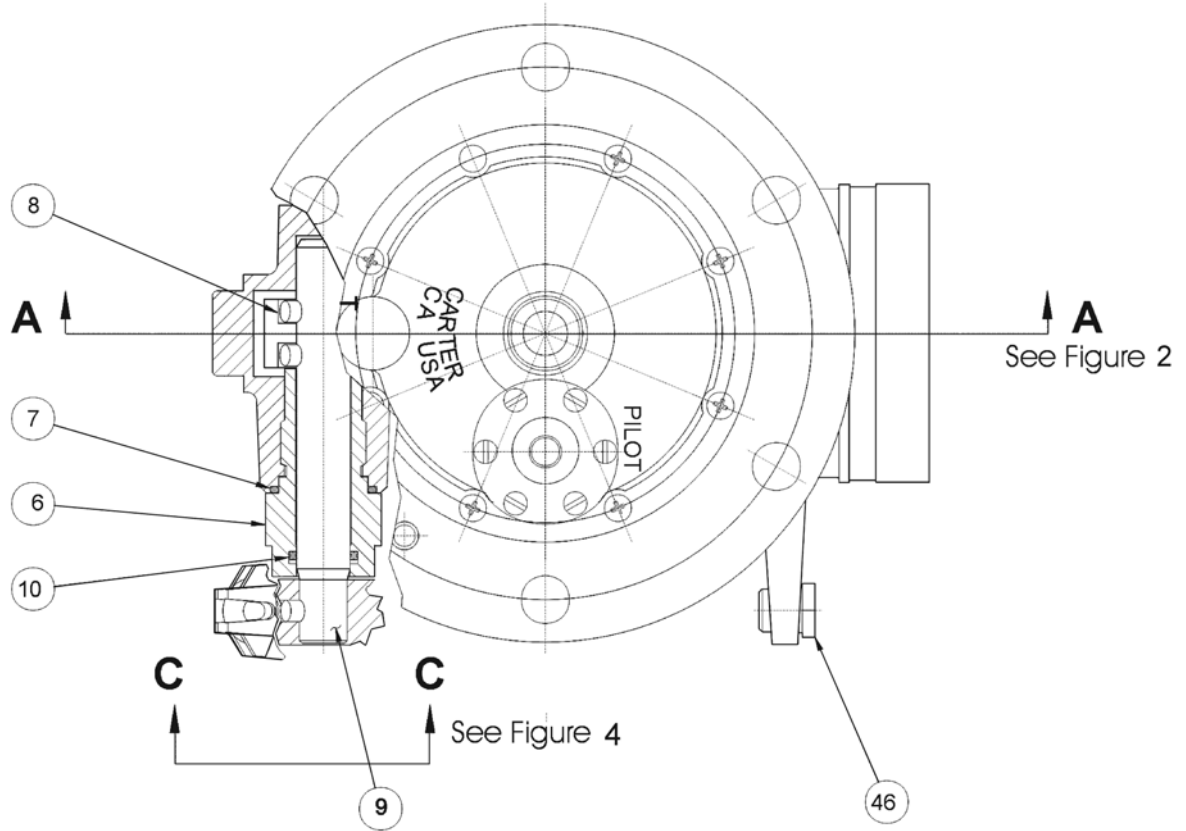
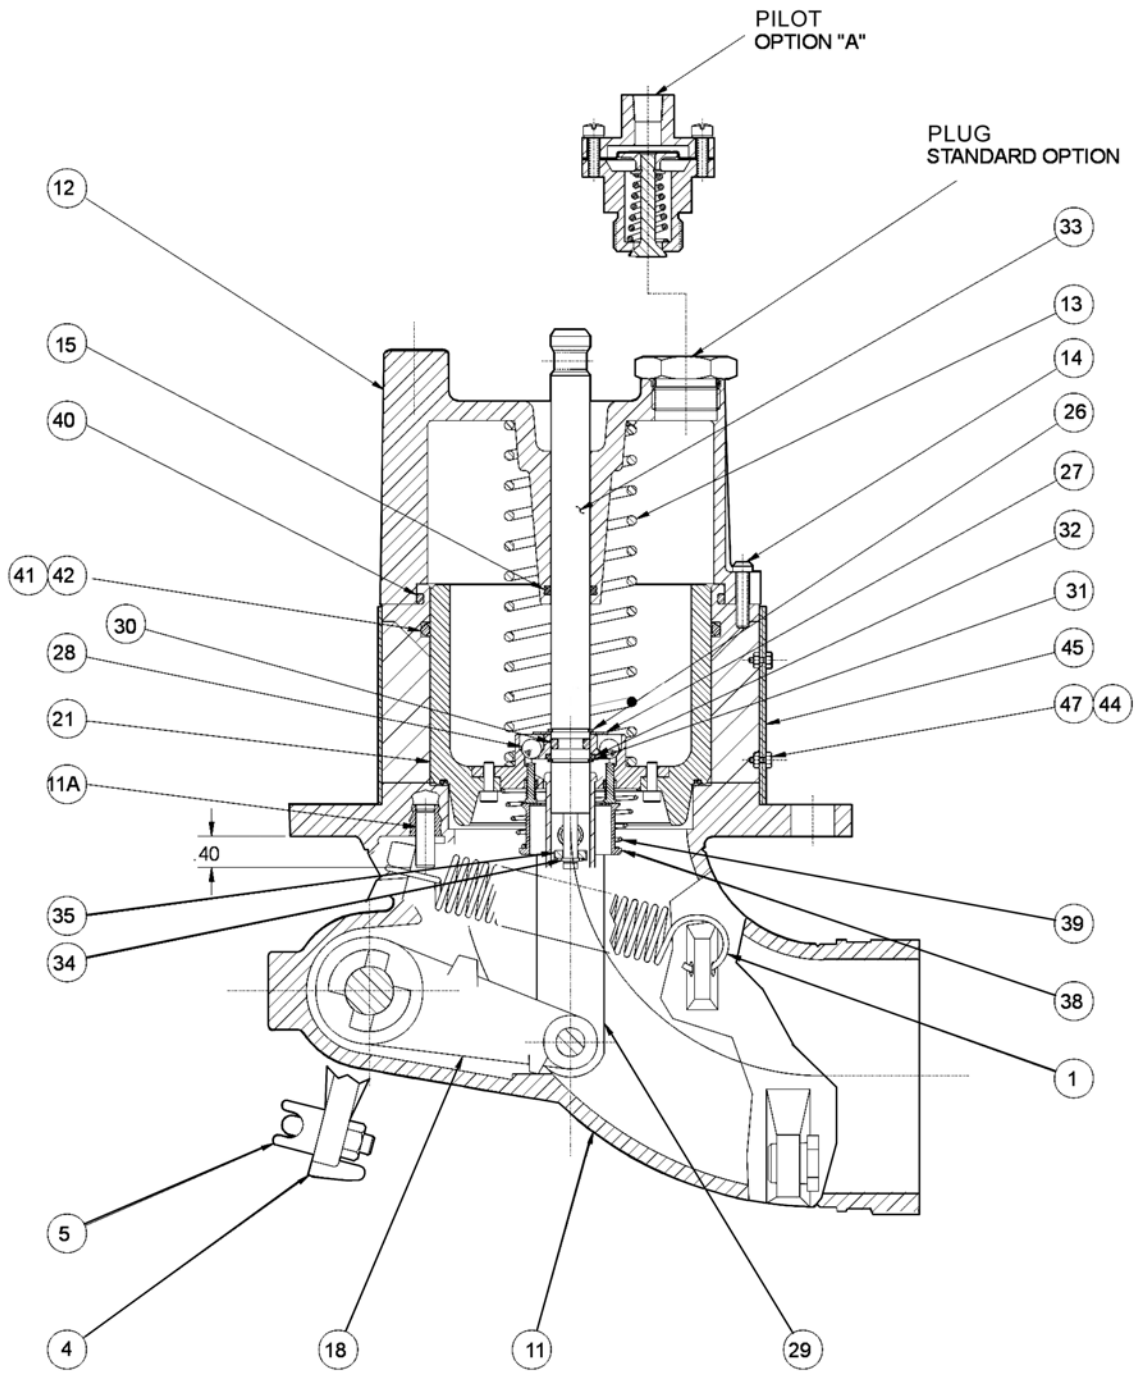

FIGURE 1 - TOP VIEW WITH PILOT
FIGURE 2 - MAIN PARTS BREAKDOWN
| <p>4.1 Refer to Figures 1 through 4 for parts breakdown. The item numbers consist of two parts, the figure number plus the item called out on that figure. Example, 2-21 is the item 21 shown in figure 2.</p> <p>4.2 Carefully remove Spring (2-1).</p> <p>4.3 Unscrew Nut (4-2) from Screw (4-3) and remove both from assembly.</p> <p>4.4 Pull Lever (2-4) from unit. Do not disassemble Clip (2-5) from Lever (2-4) unless replacement is deemed necessary.</p> | <p>4.5 Unscrew Bushing (1-6) from unit and remove from Shaft (1-9). Remove and discard O-ring (1-7) and Quad-ring (1-10).</p> <p>4.6 Remove the eight Screws (2-14) from the Cap (2-12) and put aside for reuse.</p> <p>4.7 Pull Cap (2-12) off of unit. Remove and discard Cup Seal (2-15) and O-Ring (2-40).</p> |
| <p>6.1 The following test procedures will be accomplished after overhaul:</p> <p>6.2 Test conditions</p> <p>6.2.1 Test media shall be Stoddard Solvent, Odorless kerosene, JP-4, Jet A or equivalent.</p> <p>Functional Test</p> <p>6.3.1 Connect inlet to a pressure source of at least 50 psig and apply a minimum of 10 psig to the pilot port to allow the valve to bleed of trapped air. This should be accomplished in a tank that can collect the pilot and any flow from the main piston. If a basic 64129 is being tested it will be necessary to loosen the Plug (see fig 2) sufficiently to allow the valve to open and bleed trapped air.</p> | <p>6.3.2 Remove the pressure from the pilot port or tighten the Plug (see fig 2) after all air has been bled from the valve. The main piston should close to seal the inlet. Leakage at a rate of at least 10 cc/min can be expected. If the valve does not close to a leakage rate of approximately that then either the pressure supply source is inadequate to represent a normal loading condition or there is a gross leakage from either the main piston seals. Observe to see if the source of leakage can be found and replace any seals as appropriate.</p> <p>6.3.3 With no pressure applied to the valve use a spring pull scale to check that the valve can be opened with a minimum pull of 90 lbs. (41 Kg).</p> |